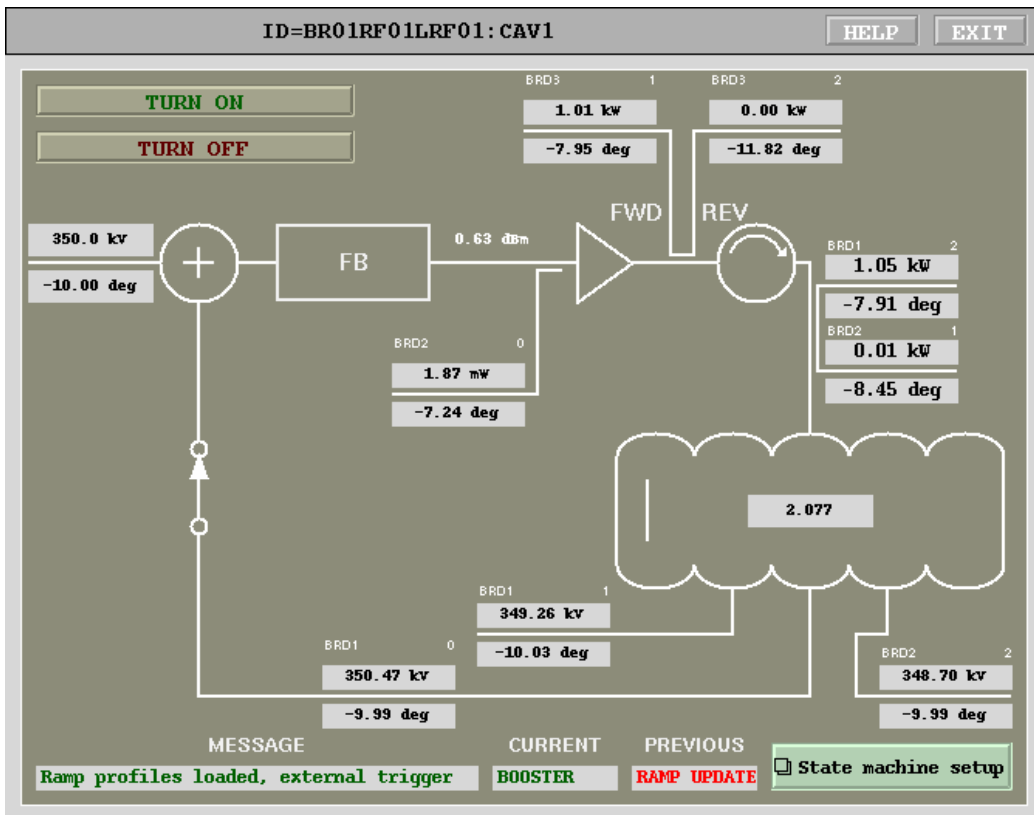
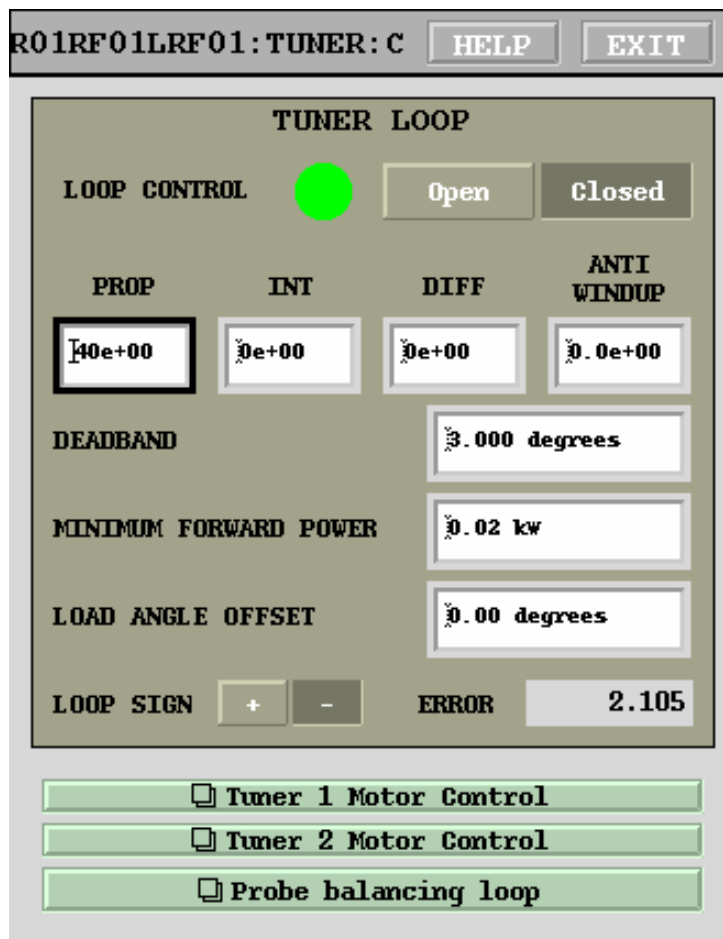
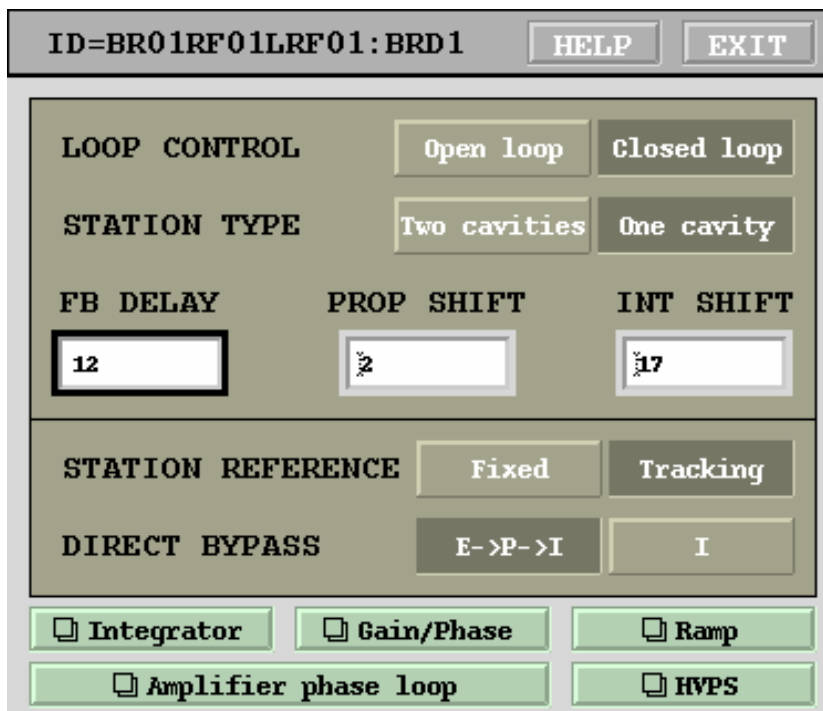

Figure 2: Top level diagram panel for the SLSA booster.
Figure 7: Tuner loop panel.
Figure 8: Feedback control panel.
1. Open the field control loop by selecting "Open loop" in the feedback panel (Fig. 8) or by clicking on the switch symbol in the top level diagram panel (Fig. 2);
2. Open the tuner loop by selecting "Open" on the tuner loop panel (Fig. 7) or by clicking on the switch symbol within the cavity outline in the top level diagram panel (Fig. 2);
Once both centre probe and forward signals have been adjusted, tuner loop error displayed inside the cavity outline on the top level diagram should be close to zero. Click on that error to open the tuner loop panel, shown in Figure 7.
tional loop of the LLRF9 acts on both modes. If the phase shift of the main accelerating mode is significantly different from that of the parasitic mode, negative feedback for one can correspond to positive feedback for the other. In this step we adjust the FB DELAY setting on the feedback panel to equalize the loop phase shifts at the two resonances. Feedback panel is shown in Figure 8.
Now, check that the proportional bit shift⁴ on the feedback panel (Fig. 8,